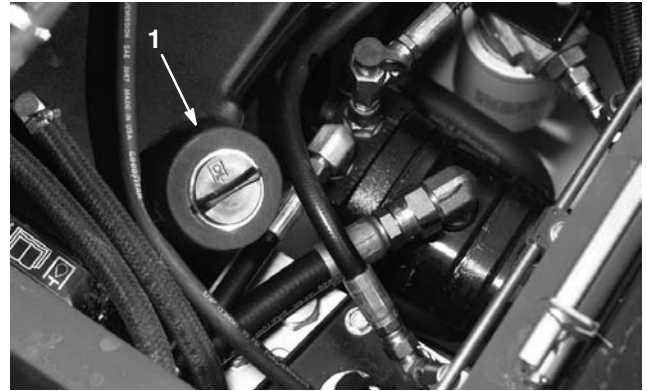

Figure 5
3. Clean the area around the filler neck and cap of the hydraulic tank (Fig. 5). Remove the cap from the filler neck.